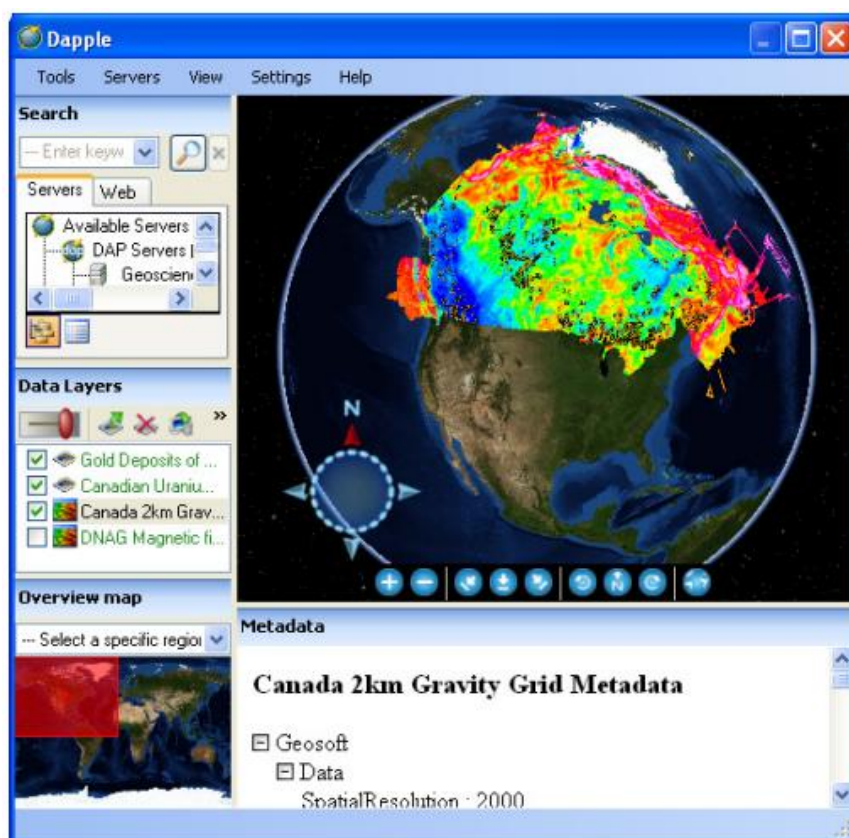

Figure 1.87. – Dapple panel
1. On the *DAP* menu, select *Find Date with Dapple* and the *Dapple* dialog will be displayed, fig. 1.87.